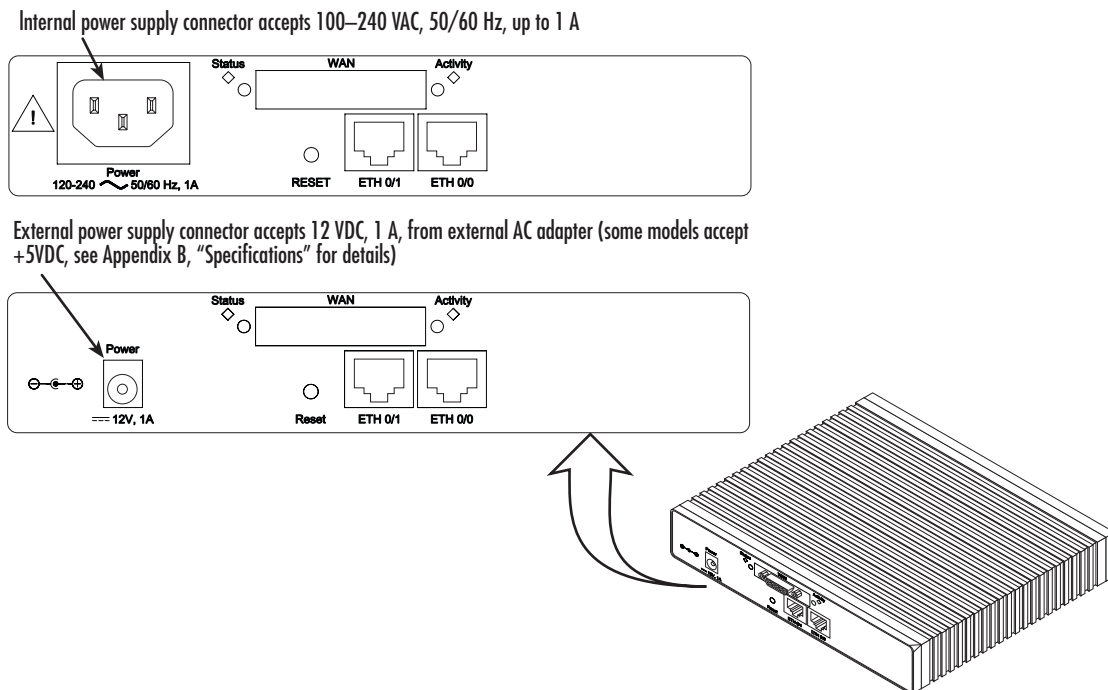

Figure 7. Power connector location on rear panel
1. If your unit is equipped with an internal power supply, go to step 2. Otherwise, insert the barrel type connector end of the AC power cord into the external power supply connector (see figure 7).
2. Insert the female end of the power cord into the internal power supply connector (see figure 7).